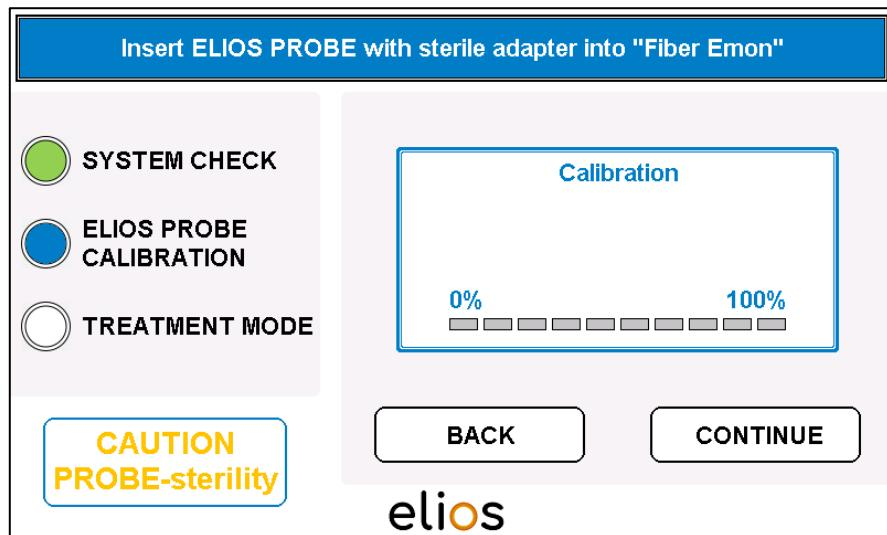

Fig. 4-10: Insert fiber with sterile adapter
- The operation is to be confirmed by the “CONTINUE” button (Fig. 4-10).